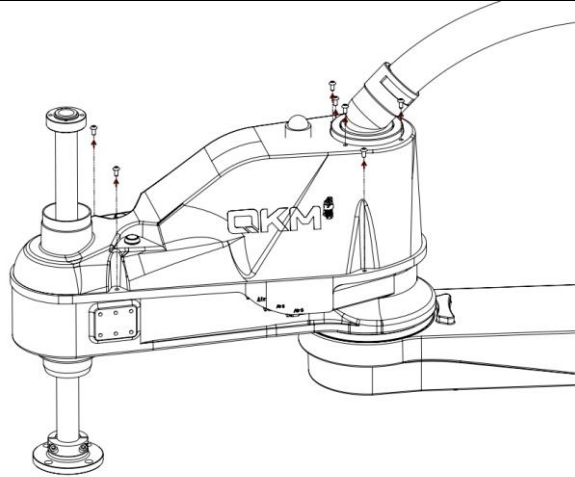

Figure 4-7 Remove the fastening screws from the cover
Step 2 Use the M3 Allen wrench to remove the fastening screws from the robot cover, as shown in Figure 4-7.